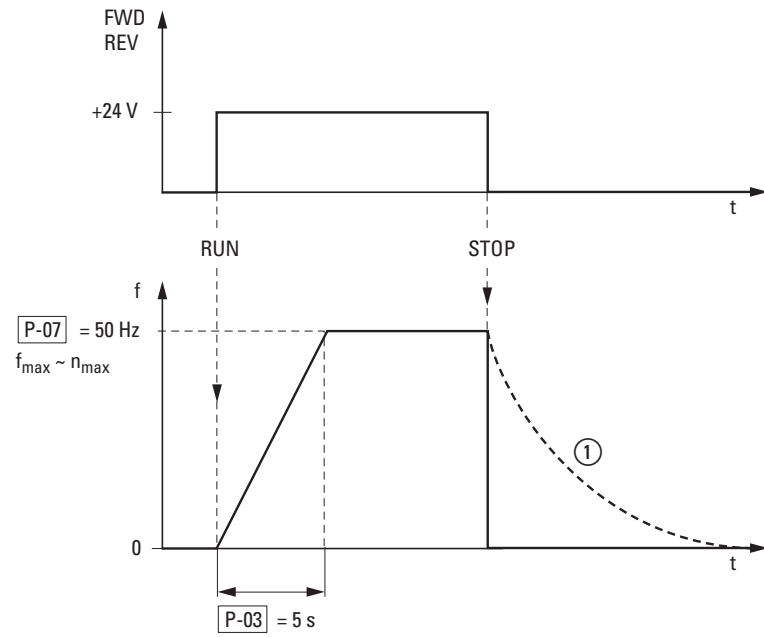

Figure 55: Start-Stop command with maximum setpoint value voltage, acceleration ramp 5 s
Figure55 on Page 88 shows a good example of the process, if the release signal (FWD/REV) is switched on and the maximum setpoint voltage (+10 V) is applied. The speed of the motor follows the output frequency depending on the load and moment of inertia (slip), from zero to  $n_{max}$ .
If the release signal (FWD, REV) is switched off during operation, the inverter is blocked immediately (STOP). The motor comes to an uncontrolled stop (see ① in Figure55).